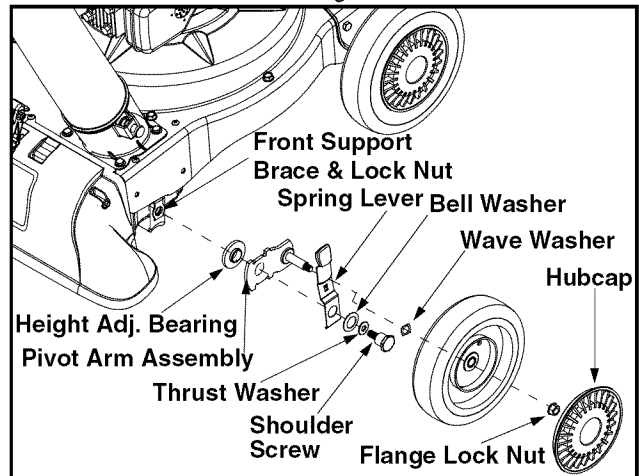

Figure 21
- Remove the front hubcaps, flange lock nuts, front wheels, and wave washers that attach to the pivot arm assemblies. See Figure 21.